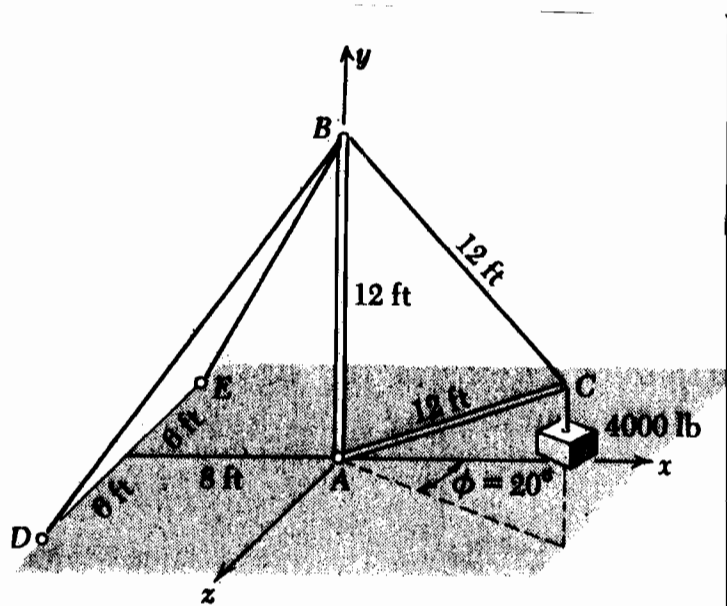

Fig. P1
- 1- The derrick shown in Fig. P1 supports a 4000-lb load. It is held by a ball-and-socket at  $A$  and by two cables attached at points  $D$  and  $E$ . In the position shown, the derrick stands in a vertical plane forming an angle  $\phi = 20^\circ$  with the  $xy$  plane. Determine the tension in each cable and the reactions at  $A$ . [Secs. 5.5 – 5.7] (25 pts.)